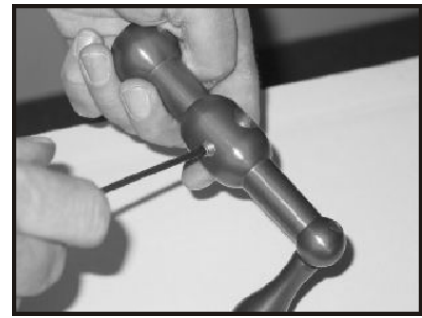

Figure 1
1. Place the Mast-R-Lift Excel upside down on a flat surface. Remove the ball crank handle, set screw and hex wrench from the hardware bag. Start the set screw in the handle part way (Fig 1).